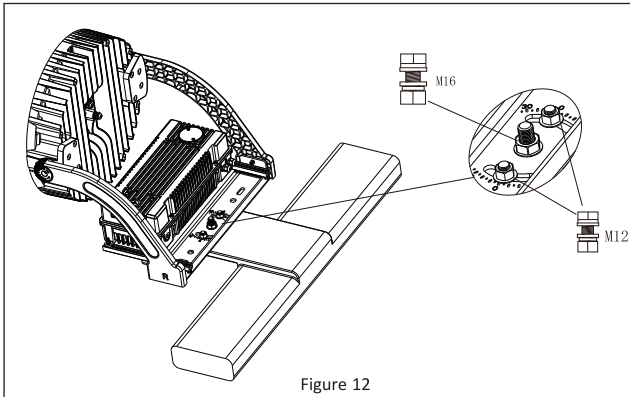

Figure 12
3. Secure the fixture to the crossarm by aligning the holes to the fixture mount and installing the 2 M12 and 1 M16 bolts with flat washers, lock washers, and nuts. **See Figure 12.**